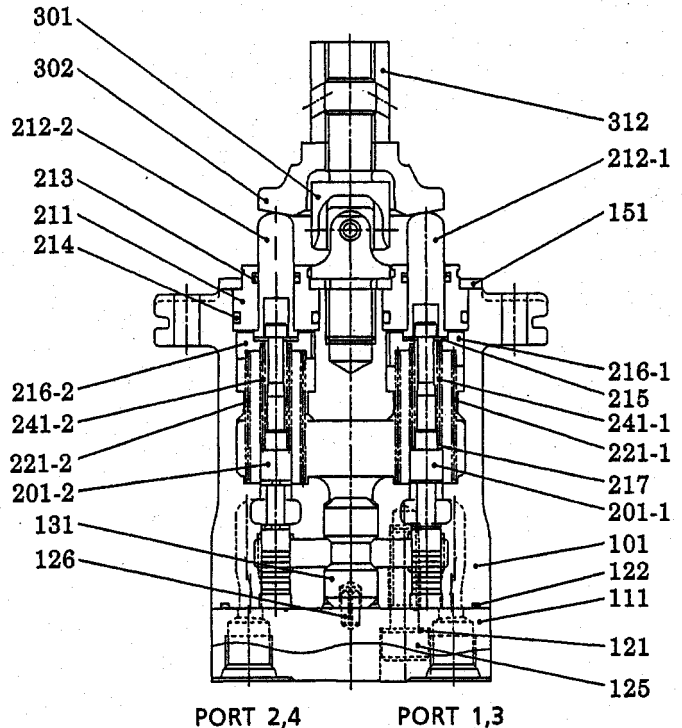

Fig. 8 Removing valve
13) Loosen plate (302), adjust nut (312) and lock nut on the lever operating part, and remove joint (301). (See Fig. 8)